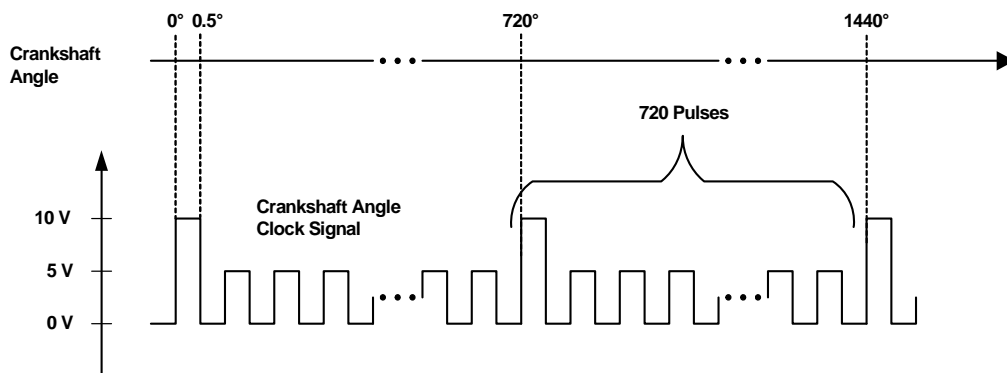

Fig. 9-8 Angle Clock Signal to Synchronize to 0° Camshaft and Calculate the Angle Position of the Engine
This information is determined by the ES1334.2 from the angle clock signal supplied on the front panel via the "SYNC" input. The angle clock signal (see Fig. 9-8) is generated by an ES1332.1 Arbitrary Signal Generator Board and makes it possible to synchronize to 0° camshaft and calculate the angle position of the engine.
- of the angle clock signal (see Fig. 9-8) or